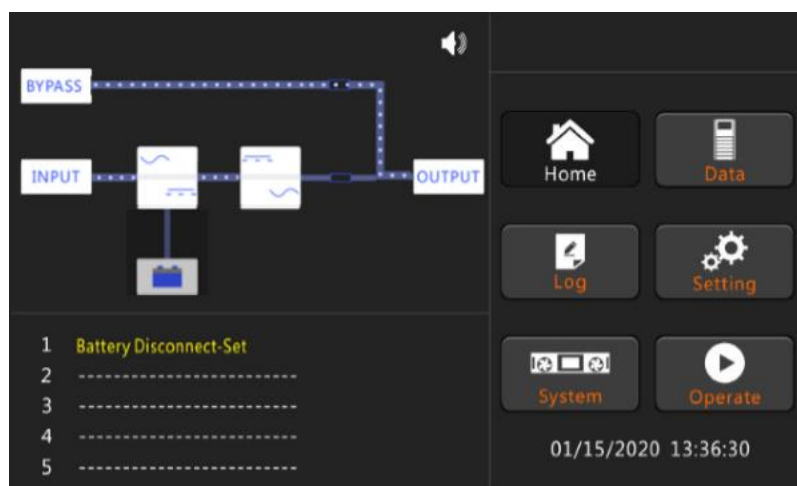

Figure.5.3 Inverter starting
2. After the bypass static switch is on, the inverter starts and the inverter indicator bar flashes as shown in Figure 5-3.